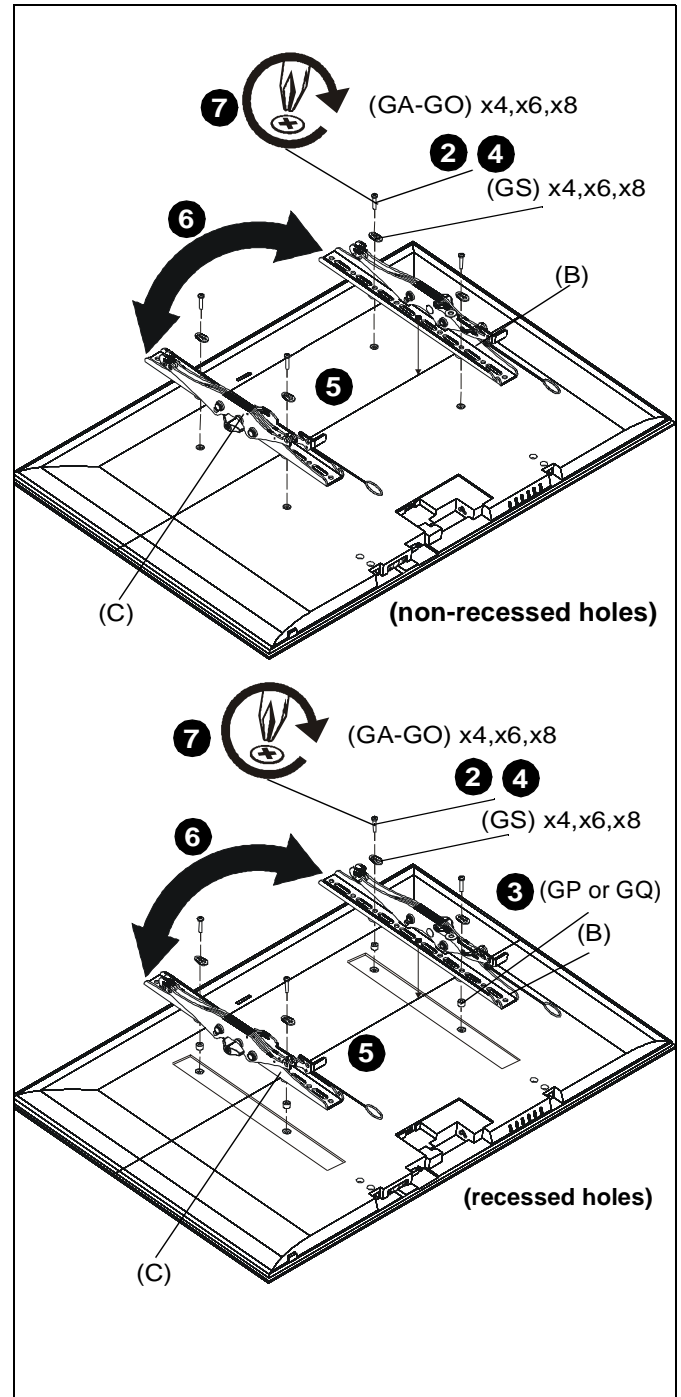

Figure 8
2. Select screw *diameter* by examining hardware (GA-GO) (8mm, 6mm, 5mm, or 4mm) and comparing with mounting holes on display. (See Figure 8)
3. Select spacers: (See Figure 8)
4. Select screw *length*: (See Figure 8)
- Using your hand, insert **SHORTEST** length screw of selected diameter (GA, GE, GI or GL) through bracket (B or C), universal washer (GS), selected spacer (GP or GQ, if required), into display mounting hole. Do **NOT** thread screw into hole at this time.
5. Place brackets (B and C) on display, ensuring: (See Figure 8)
7. Using Phillips screwdriver, carefully install selected screws through universal washers (GS), brackets (B and C), and spacers (GP or GQ, if required), into display. (See Figure 8)